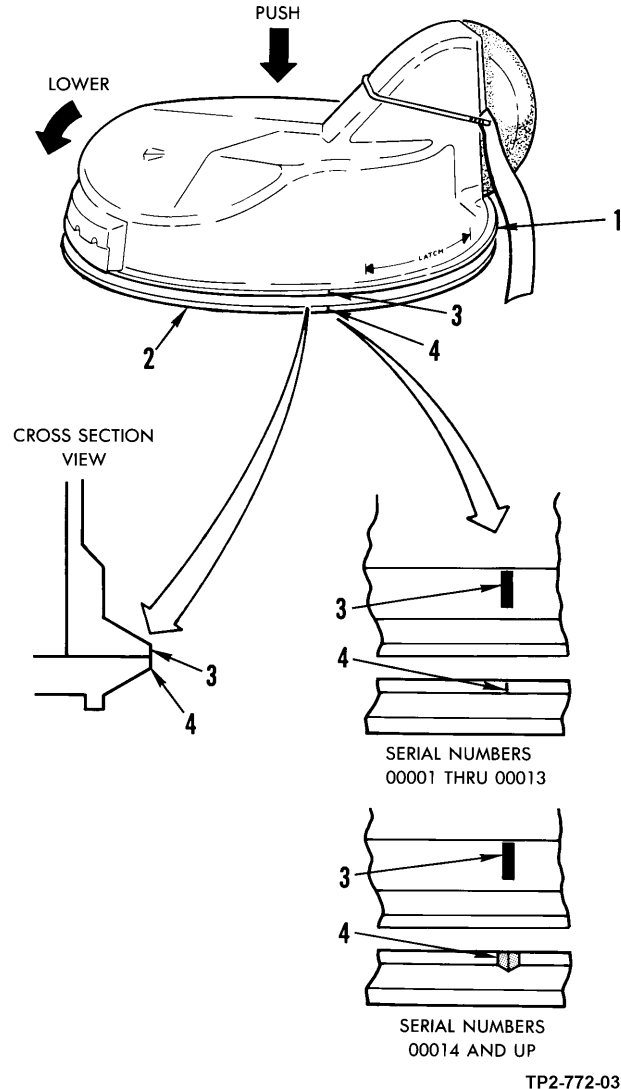

Figure 3-26. Shroud Alinement with PNVS NSA Mounting Base
- (e) Connect shroud connector P1 (3) to PNVS NSA connector P1 (4).
- (f) Alternately tighten connector screwlock screws (5).
- (g) Continue lowering shroud along a sloped direction and stopping when shroud rim (1, figure 3-26) under window cover is approximately 1/2 inch above mounting base rim (23) of PNVS NSA.
- (h) On PNVS turret serial numbers 00001 through 00013, align white alignment stripe (3) on shroud with pin mark (4) on NSA rim.